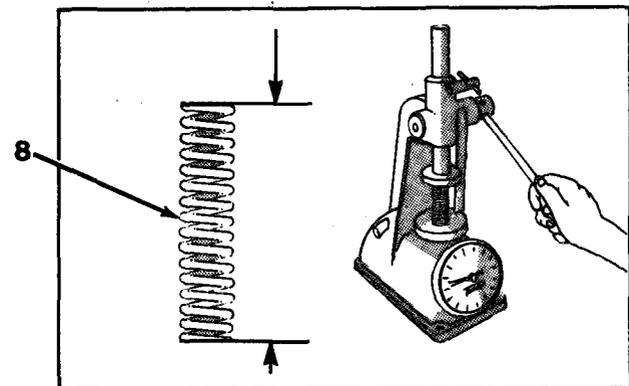

Figure 6-4
3. Inspect pressure regulator plunger (9) bore for nicks or scratches. Pressure regulator plunger (9) must move freely in bore. If pressure regulator plunger (9) does not move freely, replace lube oil cooler assembly.
4. Check spring (8, Figure 6-4). If spring (8) is out of tolerance, replace spring (8).